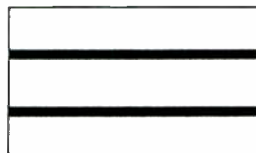

FIGURE 8: Furring strip placement.
5. Glue and nail two furring strips on one panel C (*Fig. 8*) and attach it to the bottom panel so it completes the back box. (The other panel C will become the service access panel, and also complete the front box.)